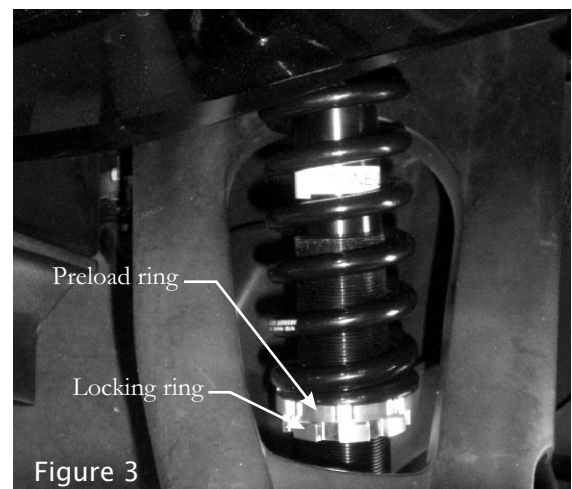
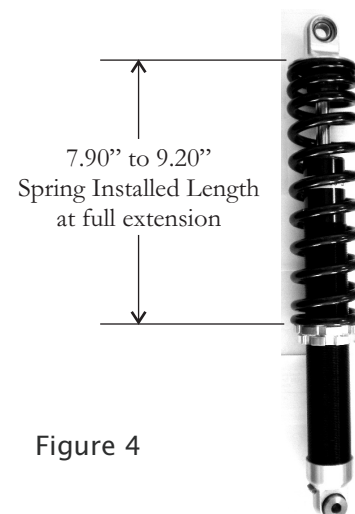

Figure 3
Figure 4
7. Spring pre-load adjustments are made with the supplied preload adjusting wrench by first loosening the lower locking ring, then adjusting the upper preload ring (figure 3). As you adjust the preload on the shock be sure to compare the lengths of the springs on either side to be certain the preload is adjusted equally. Once the proper preload has been achieved, re-tighten the locking rings against the adjusting rings. With the shock fully extended, the spring installed length must never be adjusted to a length longer than 9.20" inches or shorter than 7.90" inches (figure 4).